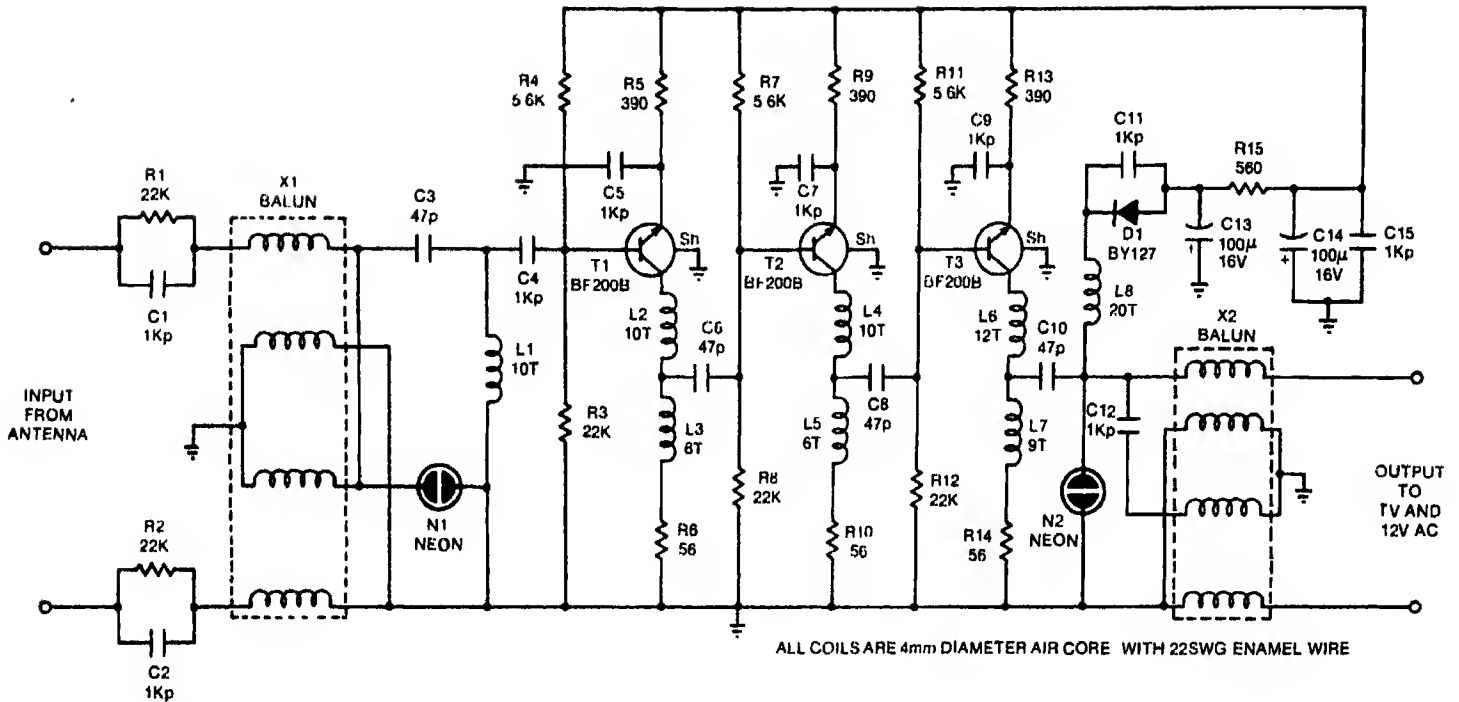
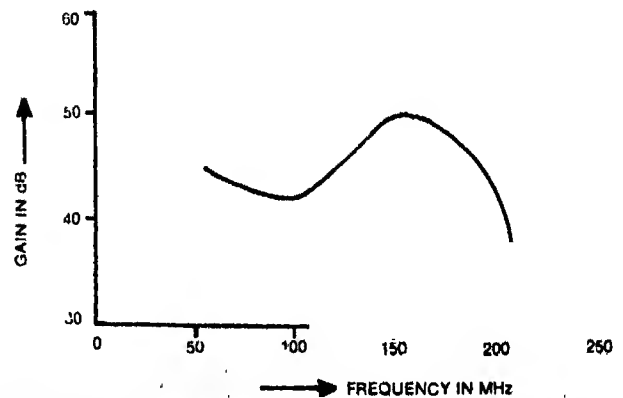

Fig. 1: Circuit diagram for the high-gain TV booster.
Fig. 2: Gain vs Frequency characteristics for TV booster.
- L1-L8 — (see Fig. 1)
Generally, circuits employing a number of inductors for broadband amplification tend to oscillate if proper care is not taken while providing the necessary shielding in printed circuit layout. Also, home constructors find difficulty in alignment. Keeping these points in mind, a three-stage RC coupled design (Fig. 1) is offered here along with a simple power supply. The unit offers a gain of 42 dB up to 100 MHz and about 50 dB up to 150 MHz (beyond 100 MHz) as shown in the gain vs frequency characteristics curve (Fig. 2). It is most suitable for fringe areas and deep fringe TV viewers.